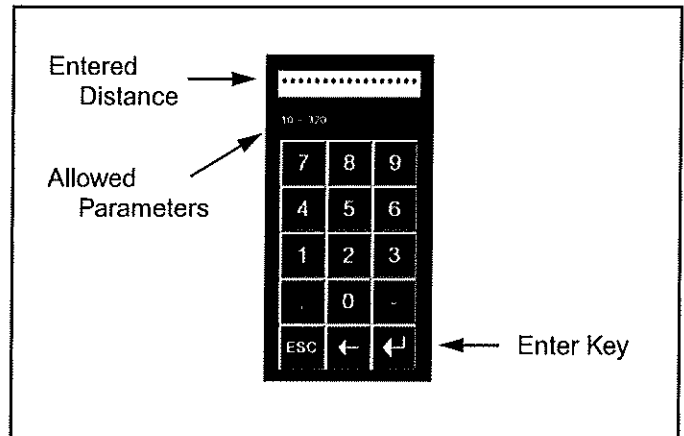

Figure 67
- b. Enter radial arc distance (select 10-320 ft) press enter (Figure 67).
- d. Enter extension distance press enter (Figure 67). (Select 10-46 - TS110 / 10-56 - TS130 / 10-66 - TS 150 & 170 / 10-86 - TS190)
- f. Enter radial increment distance (select 1-9 ft) press enter (Figure 67).